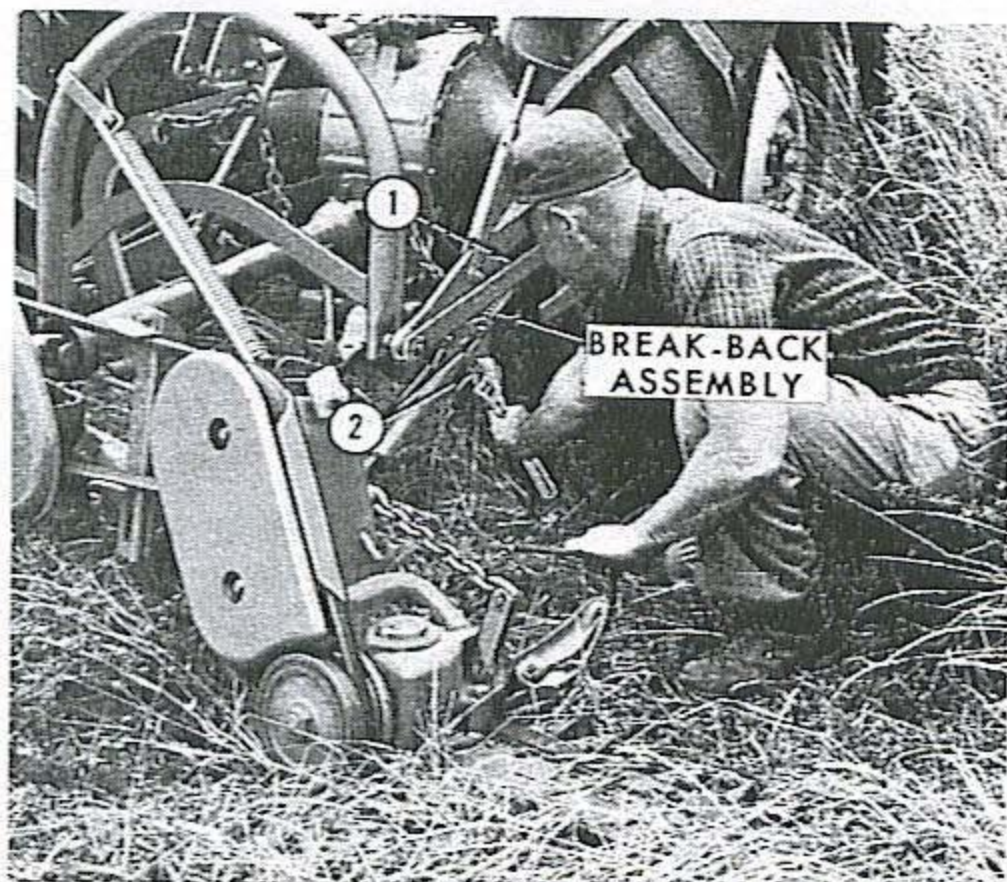

Figure 13
Gradually and equally tighten the adjusting nuts (2), Figure 13, evenly until the breakback is compressed to 10-7/16" (factor of 10). This adjustment should be satisfactory under normal conditions. Tension may be increased if necessary, but should not be reduced below the normal adjustment.